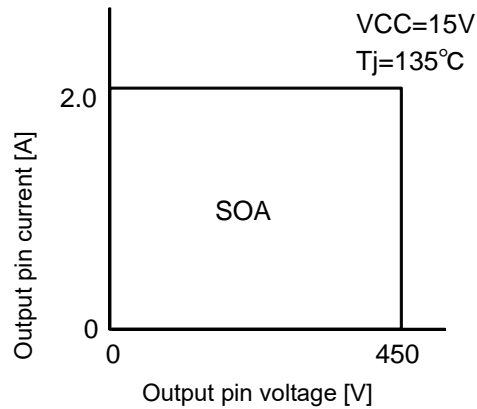

FIGURE 4.1.1 SOA
The current and voltage at output pins must not be outside the SOA shown in FIGURE 4.1.1.
Delay time to turn output IGBT off (T_{ref2}) and variability of V_{ref2} , R_s need to be considered, and the current must be below the derating curve of FIGURE 4.1.1.